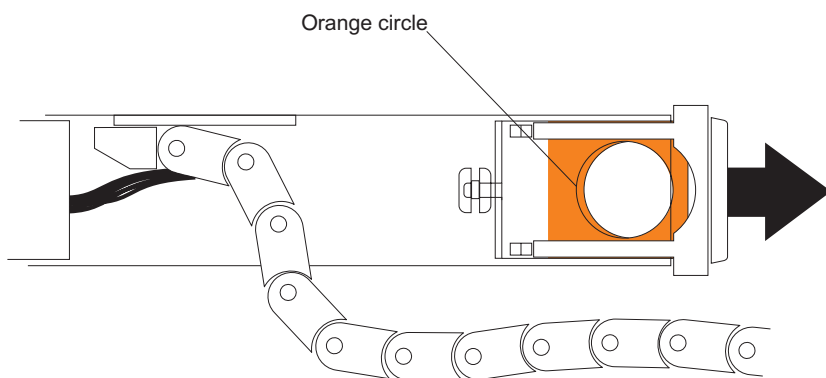

Figure 85. Horizontal mounting bracket that connects to the drive drawer
- d. Disconnect the right cable chain mounting bracket from the drive drawer. Insert your finger into the orange circle (see Figure 85), and pull the mounting bracket completely out of the drive tray. Remove the right cable chain.